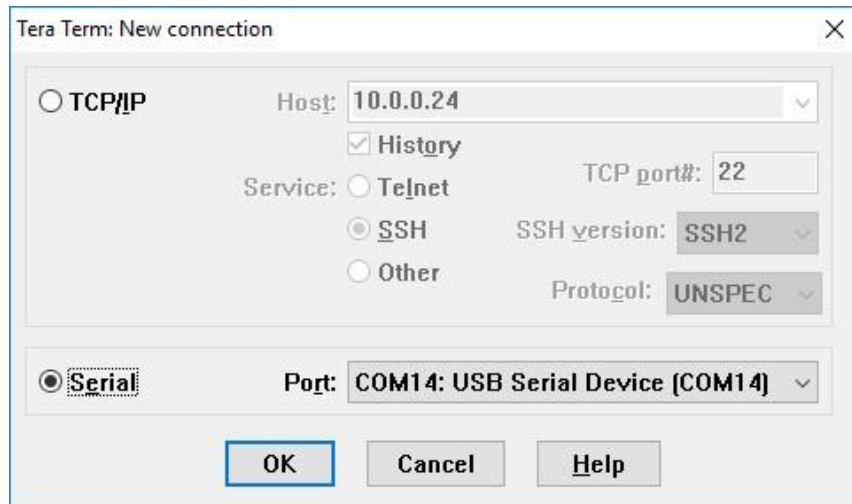

Figure 6-3: Com Power Selection
3. Then launch the Teraterm application, then select the serial and select the correct COM Port and select “OK”. (see Figure 6-3)